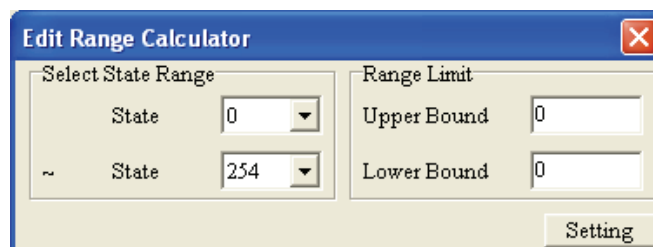

Figure 1-78
Step 6. After pressing Refer Value button, the following Edit Range Calculator tab (Figure 1-78) will appear and it could help to calculate the setting range value for all states.